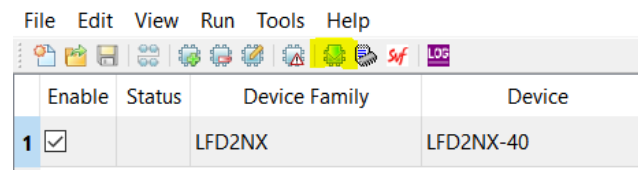

Figure 3.12. Programming Button
- Click the **Programming** button highlighted in Figure 3.12 to start programming.